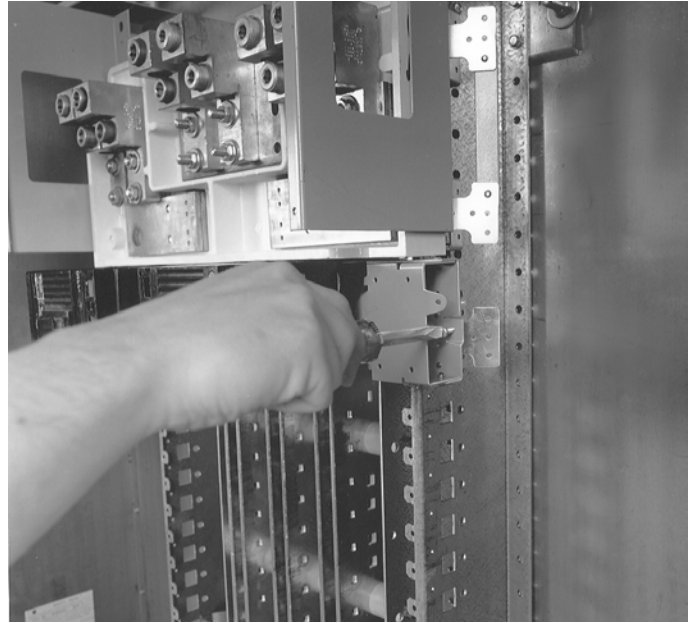

Figure 6. Installing the breaker module.
**5. Install the module.** Latch one side of the circuit breaker module. Release the rail latch. Pivot the module onto the bus bars and engage the second latch. Release the rail latch. Tighten the rail latch screws to 25 in.-lbs, as shown in Figure 6.